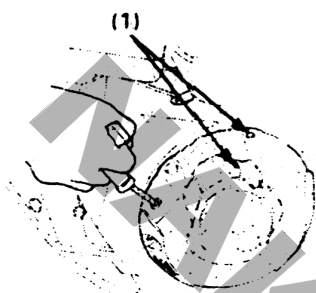

Fig. 33
- Pull the starter grip until resistance is felt. Continue pulling until the notch on the starter pulley aligns with the hole on the recoil starter. (Fig. 33)